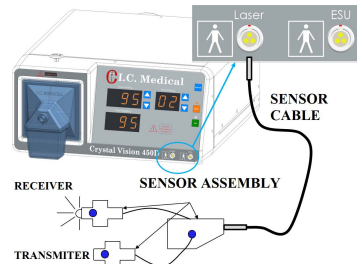

Figure1: Sensor assembly parts and connection to the CRYSTAL VISION®.
1. Attach the Sensor Cable (Figure 1) to the LASER connector on the CRYSTAL VISION® and to the Sensor Connector Box.